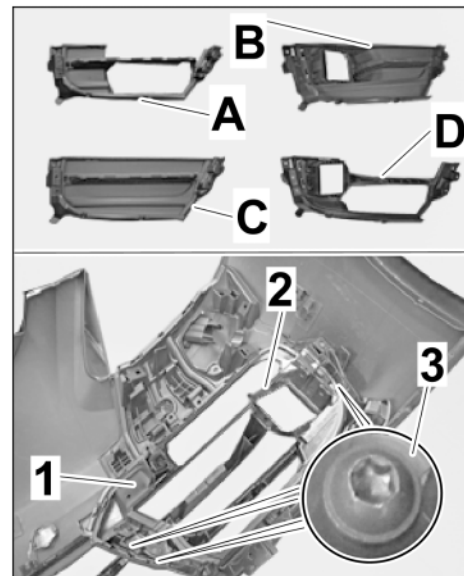

Figure 19
3.3.1 Install insert piece for trim (right-hand side shown here, type D ⇒ *Figure 19*) into the grille.